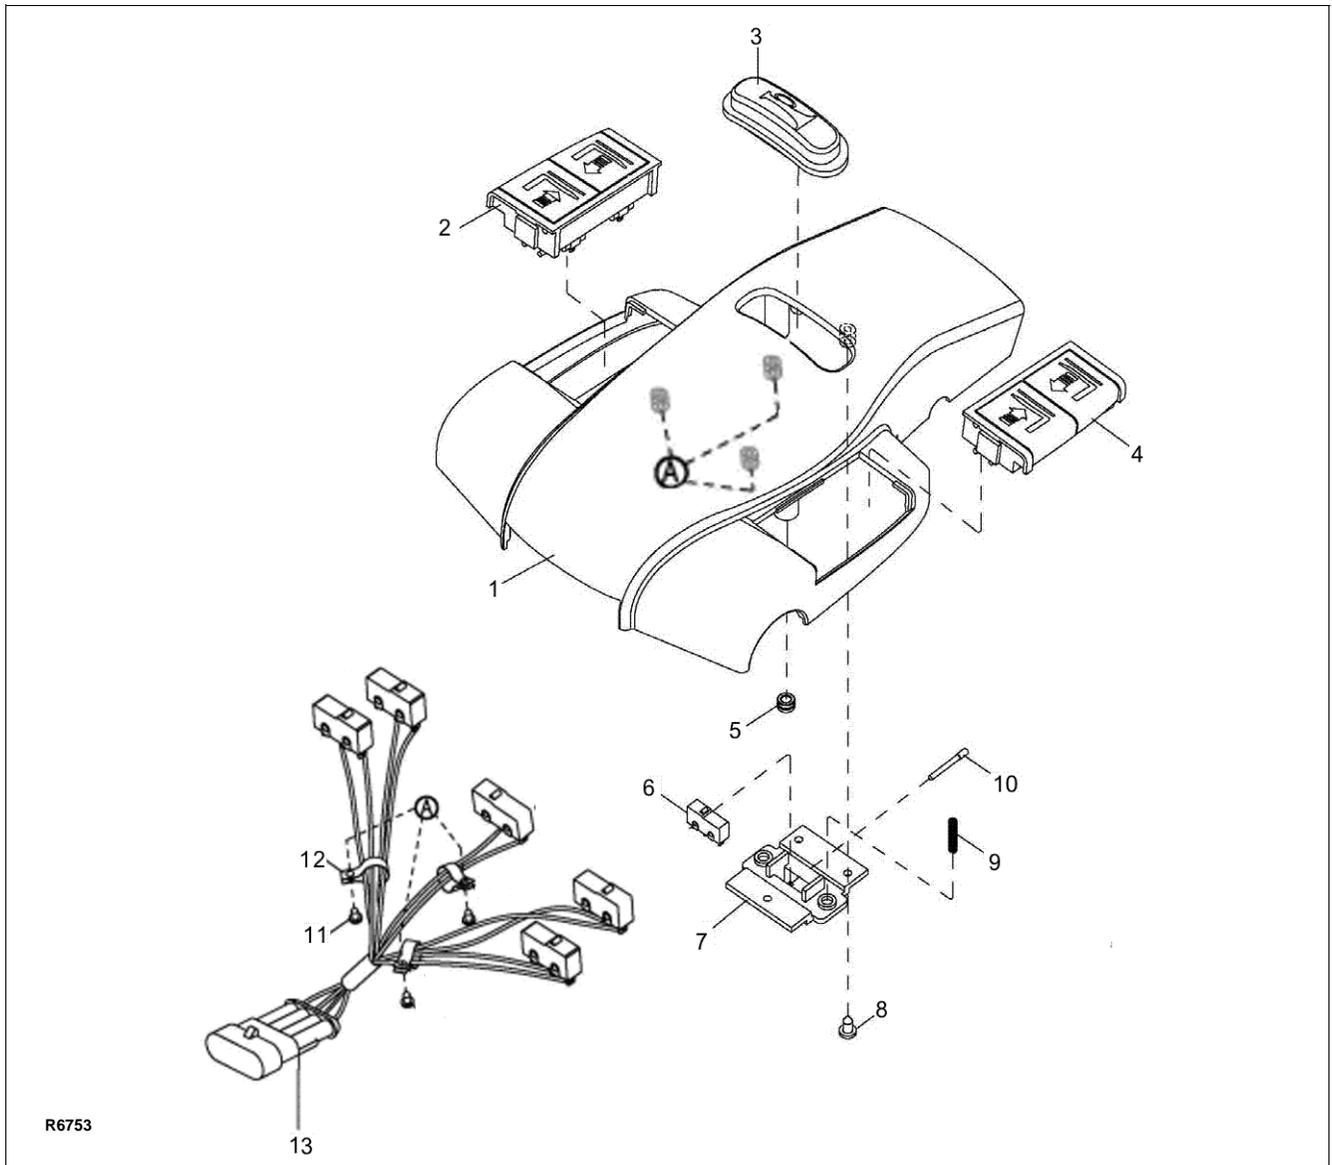
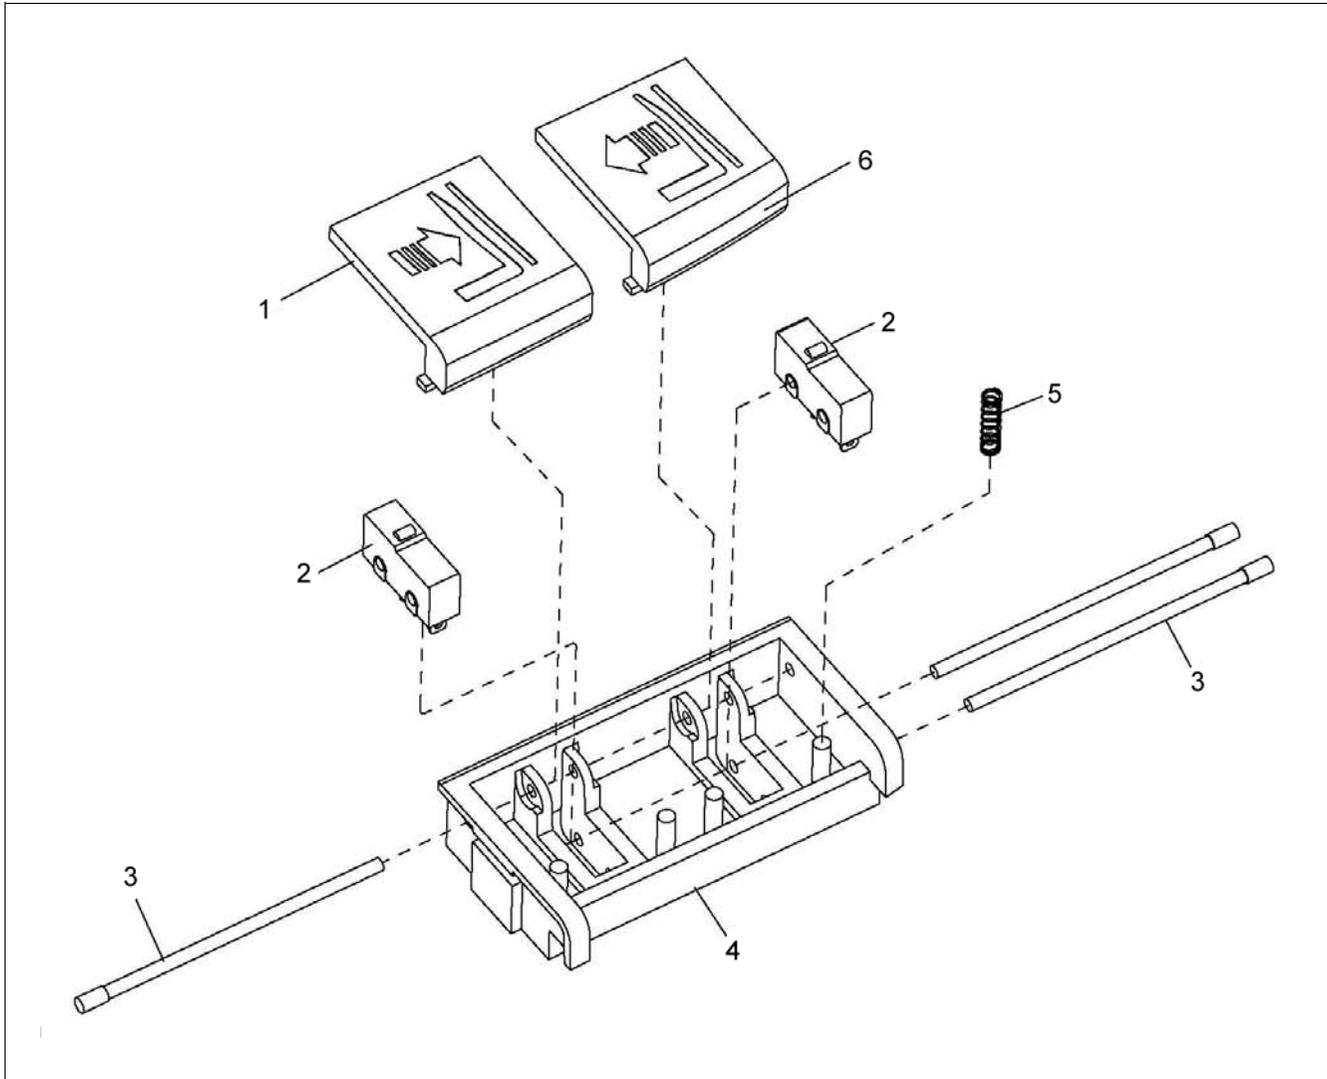

Figure 5-4 Cap Assembly
Figure 5-5 Left Lift/Lower Switch Assy (Right Similar)
3. Disconnect harness (13, Figure 5-4) from harness (17, Figure 12-17) and remove cap assembly (1).
2. Remove three screws (8, Figure 5-4), bracket (7) and two springs (9).
3. Remove two pins (10) and switch (6) from bracket (7).
4. Unsolder harness (13) from switch (6).
5. Solder harness (13) to new switch (6).
6. Position new switch (6) in bracket (7) and secure with two pins (10).
7. Position bracket (7) with two springs (9) in cover (1) and secure with three screws (8).
2. Remove switch assembly (2 or 4, Figure 5-4) from the cap (1)
3. Remove pin (3, Figure 5-5) securing buttons (1 and 6) to bracket (4) and remove the buttons.
4. Remove two pins (3), two switches (2) and four springs (5) from bracket (4).
5. Unsolder harness (13, Figure 5-4) from defective switch (2, Figure 5-5).
6. Solder the harness to new switch (2).
7. Position switches (2) and four springs (5) in bracket (4) and secure with two pins (3).
8. Position switch assembly (2 or 4, Figure 5-4) in cover (1) and secure with pin (3, Figure 5-5).